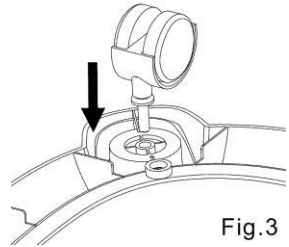

Fig.3
Step 3: Insert the casters into the holes in the base, in a turning motion. Then press down and make sure the casters are firmly attached (Fig. 3).